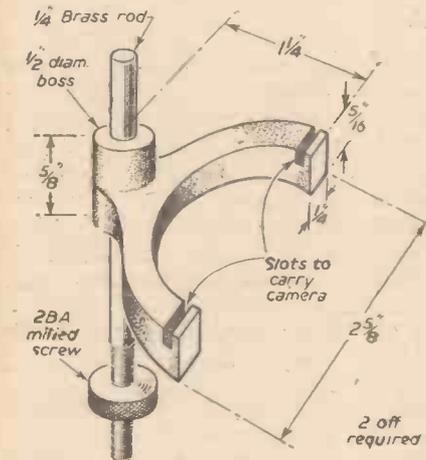

Fig. 6.—Perspective view of camera mount.
**T**WO blocks of metal measuring approximately 2½ in. x 2 in. x ¾ in. were cast in a suitable tin and, after marking out, as much surplus metal as possible was cut away. Then the brackets were worked into shape with a half-round file. The slots in the end may vary in size according to the type of camera used. (See Fig. 6.)